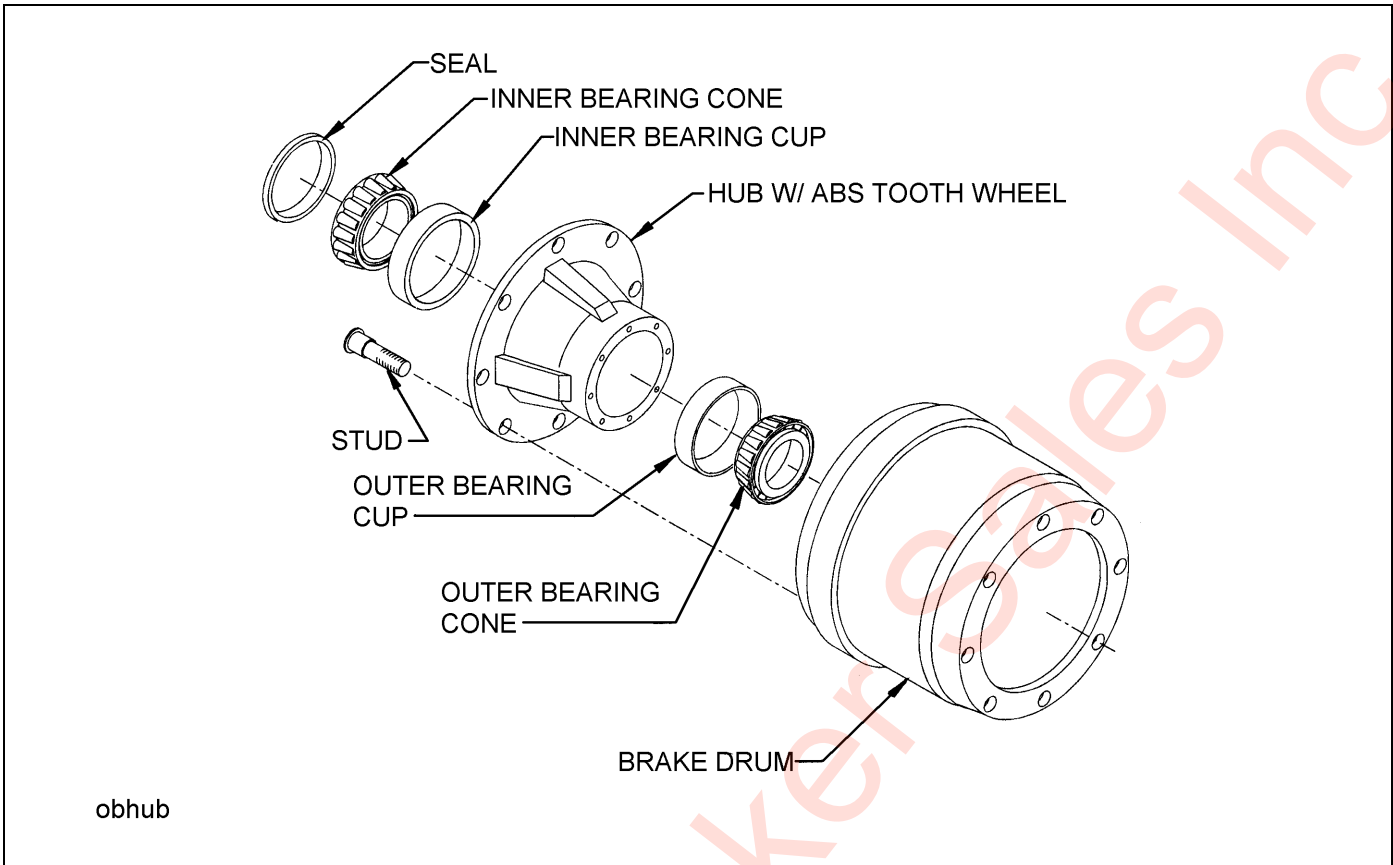

Figure 4-15: Outboard Hub and Drum
4. Replace the hub and drum as follows (See Figure 4-15.)
- a. Remove the brake drum (See Figure 4-15.) It may be necessary to release the slack adjuster.